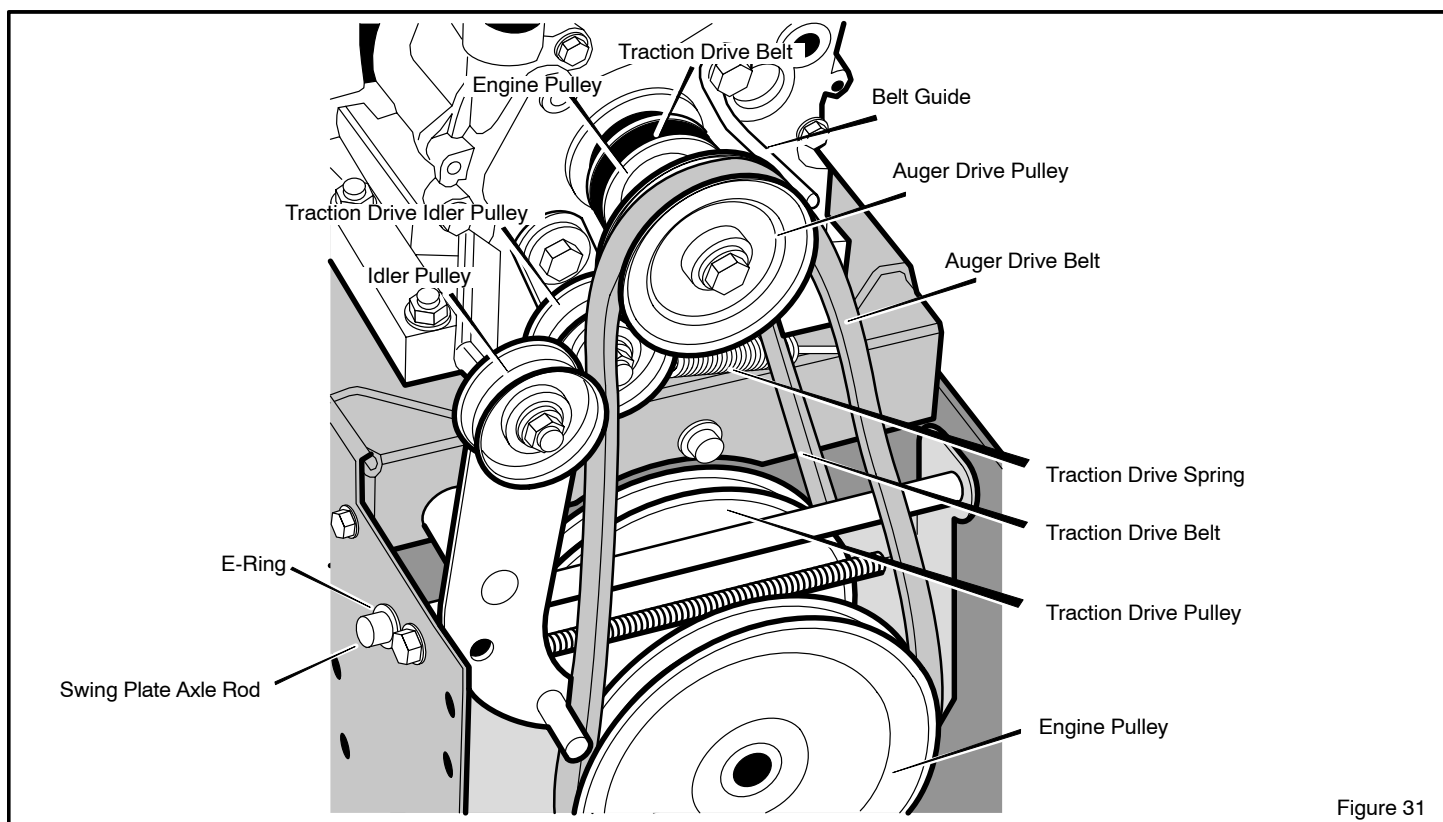

Figure 31
3. Loosen nut on auger idler pulley and move auger idler pulley towards belt about 1/8 inch (3 mm) (see Figure 31).
5. Loosen the **belt guide**. Pull the **belt guide** away from the **auger drive pulley** (see Figure 31).
9. Remove the old **auger drive belt** from the **auger drive pulley**. Replace the **auger drive belt** with an original factory replacement belt available from an authorized service center (see Figure 31).
3. Remove the **e-ring** from one end of the **swing plate axle rod**. Remove the **swing plate axle rod** to allow the swing plate to pivot forward (see Figure 31).